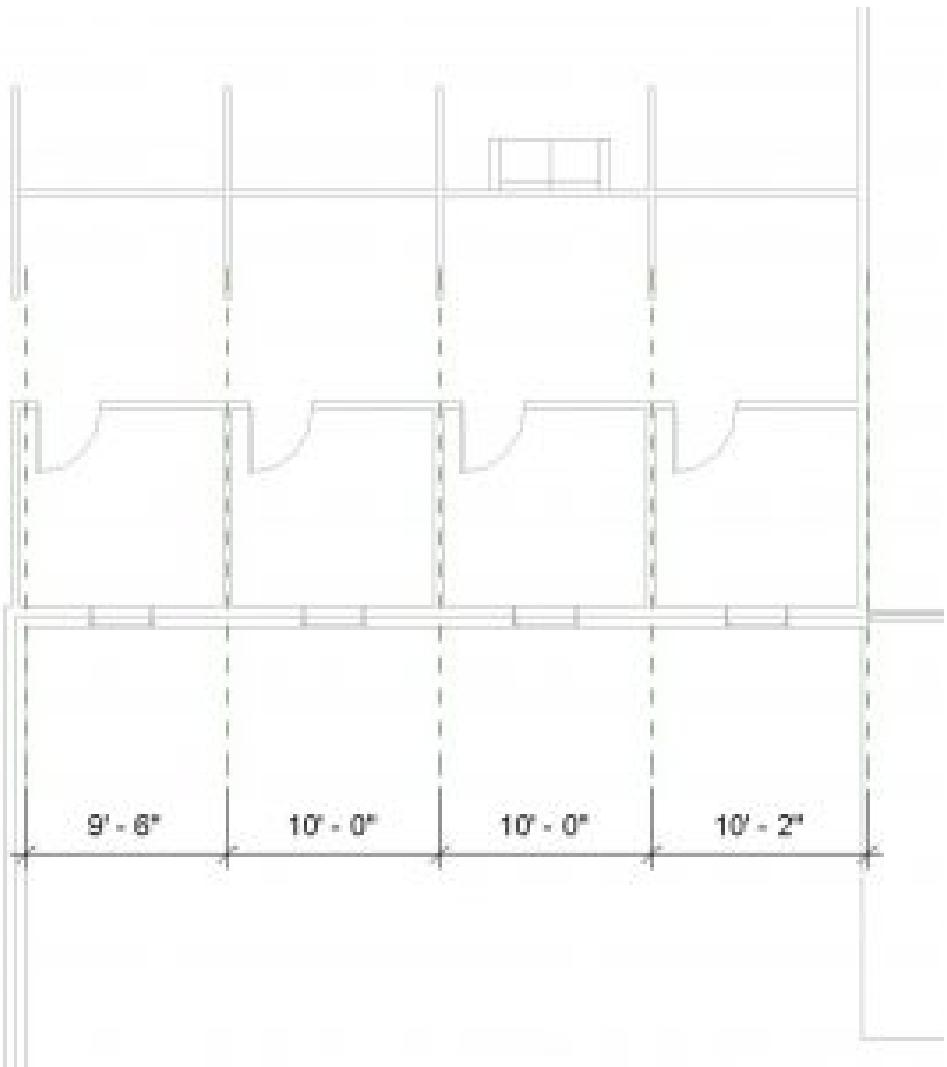

Figure 7.15 Reference planes shown in Level 1 view
5. Draw 5 reference planes as shown in Figure 7.15